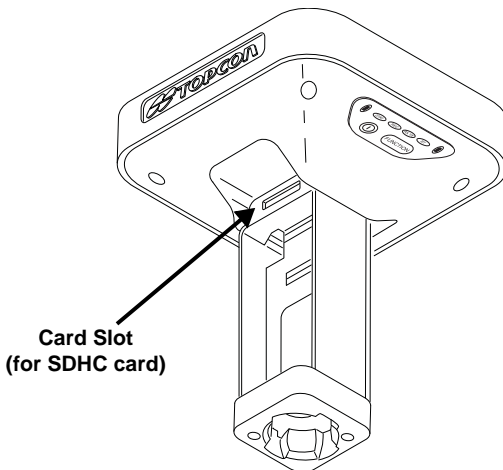

Figure 1-6. GR-5 Card Slot Example
**The SDHC card slot** is located to the left of the MINTER inside the battery compartment (Figure 1-6) and connects an optional SDHC card to the receiver board to provide memory. Once installed, the SDHC card usually remains inside the receiver. The data that resides on the SDHC card can be accessed via the USB or serial port, or Bluetooth wireless technology. A secure digital card can be purchased at a local computer supply store.